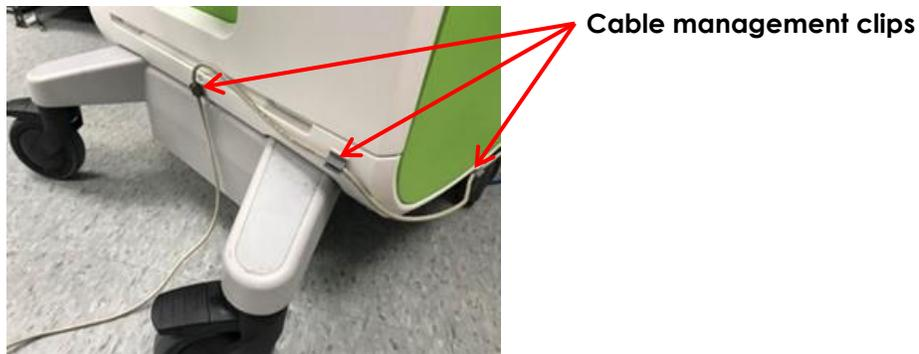

Figure 133: Foot Pedal Cable Management
6. Ensure that the foot pedal cable management clips are all present, and the cord can be clipped through all of them (refer to Figure 133).